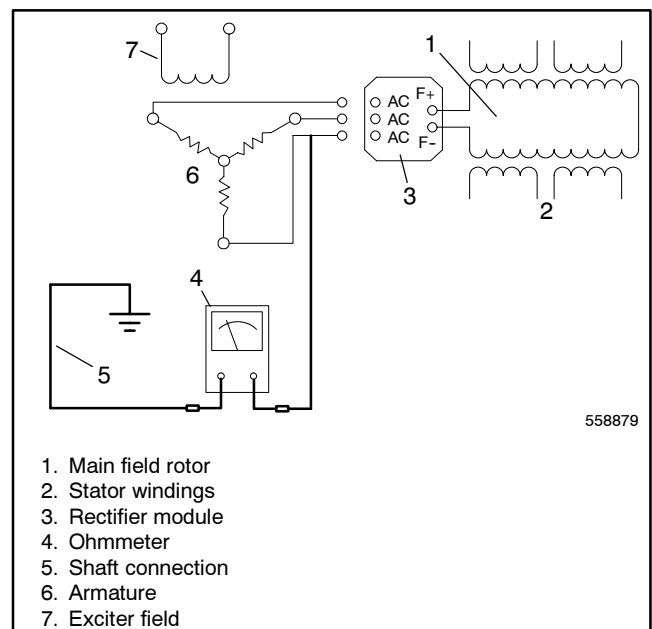

Figure 7-9 Megohmmeter Connections on Exciter Armature
5. Check if the exciter armature winding is ground. Use a megohmmeter to apply 500 volts DC to either armature lead and the armature frame. Follow the instructions of the megohmmeter's manufacturer when performing this test. See Figure 7-9. A reading of approximately 500 kOhms (1/2 megohm) and higher indicates that the exciter armature is functional. A reading of less than approximately 500 kOhms indicates deterioration of the winding insulation and possible current flow to ground. Repair or replace the exciter armature.